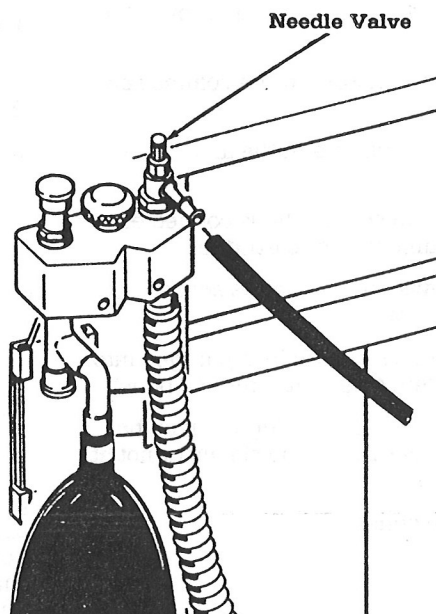

Figure 5-14
2. Adjust the assembly's needle valve so the reservoir bag oscillates between half-full and completely collapsed during each normal breathing cycle. (See figure 5-14.)